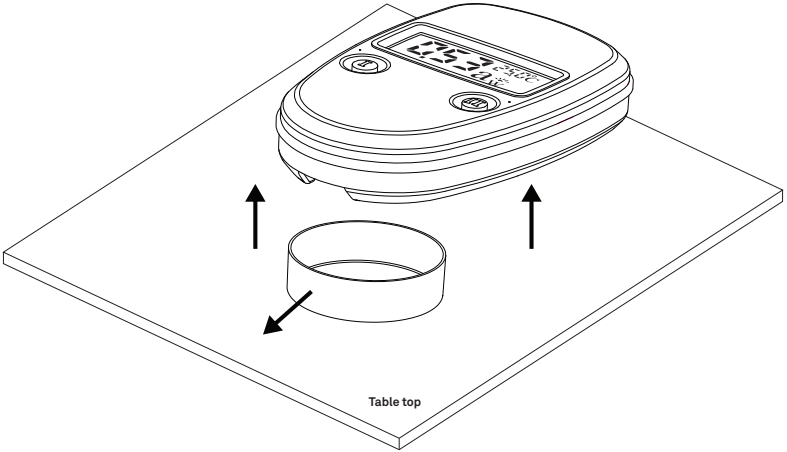

Figure 8 Remove handheld water activity meter when measurement complete
- Lift the water activity meter straight up as shown in Figure 8 to avoid spilling the sample cup. The sample may now be discarded or covered with a lid if it is to be remeasured at a later time.